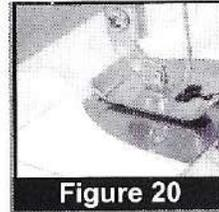

Figure 20
7. Pull both the bobbin and top thread toward the back of your presser foot. (Figure 20)